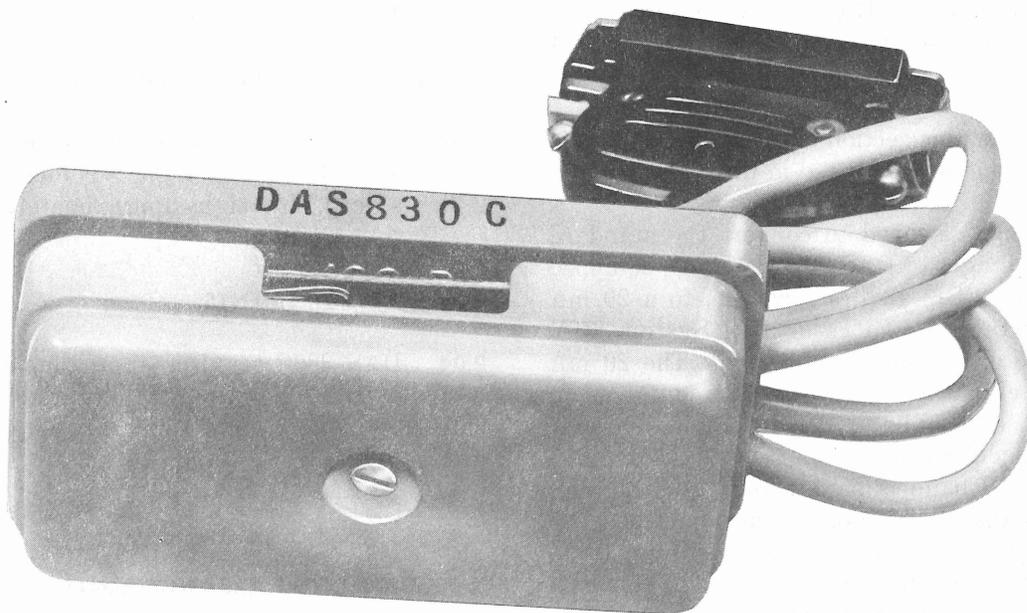

Fig. 2—Data Auxiliary Set 830C Terminal Board
2.01 DAS 830C (Fig. 2) consists of a printed circuit board mounted on a 168D-49 backboard equipped with a 101A-49 cover. The circuit board
5.01 The 4-screws located on the DAS 830C terminal board (Fig. 2) will interface with the CPT or TTY as follows:
5.02 The terminal connections of the DAS 830C (Fig. 2) for both 3- or 4-wire circuits are shown by Table B.